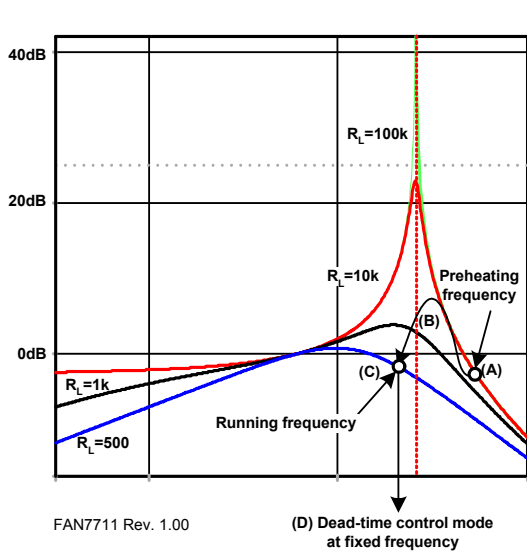

Figure 19. LCC Transfer Function in Terms of Lamp Impedance
The transfer function of LCC resonant tank is heavily dependent on the lamp impedance, R_L , as illustrated in Figure 19. The oscillator in FAN7711 generates effective driving frequencies to assist lamp ignition and improve lamp life longevity. Accordingly, the oscillation frequency is changed in the following sequence:
Before the lamp is ignited, the lamp impedance is very high. Once the lamp is turned on, the lamp impedance significantly decreases. Since the resonant peak is very high due to the high-resistance of the lamp at the instant of turning on the lamp, the lamp must be driven at higher frequency than the resonant frequency, shown as (A) in Figure 19. In this mode, the current supplied by the inverter mainly flows through C_P . C_P connects both filaments and makes the current path to ground. As a result, the current warms up the filament for easy ignition. The amount of the current can be adjusted by controlling the oscillation frequency or changing the capacitance of C_P . The driving frequency, f_{PRE} , is called preheating frequency and is derived by:
After the warm-up, the FAN7711 decreases the frequency, shown as (B) of Figure 19. This action increases the voltage of the lamp and helps the fluorescent lamp ignite. The ignition frequency is described as a function of CPH voltage, as follows:
Finally, the lamp is driven at a fixed frequency by an external resistor, R_T , shown as (C) of Figure 19. If V_{DD} is higher than $V_{DDTH(ST+)}$ and UVLO is released, the voltage of R_T pin is regulated to 4V. This voltage adjusts the oscillator's control current according to the resistance of R_T . Because this current and an internal capacitor set the oscillation frequency, the FAN7711 does not need any external capacitors.
Even in the active ZVS mode, shown as (D) in Figure 19, the oscillation frequency is not changed. The dead-time is varied according to the resonant tank characteristic.